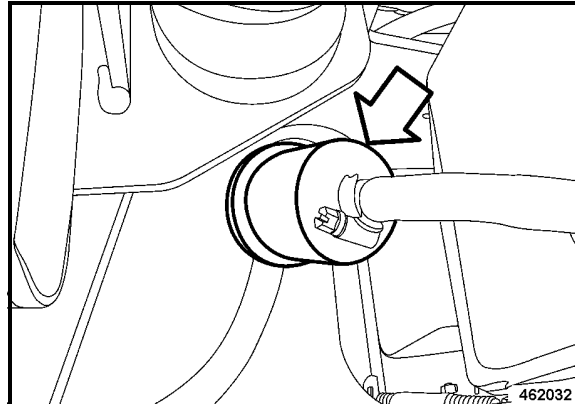

Fig. 145
- Unscrew the hose clamps (Fig. 145) on the fuel pre-cleaner.